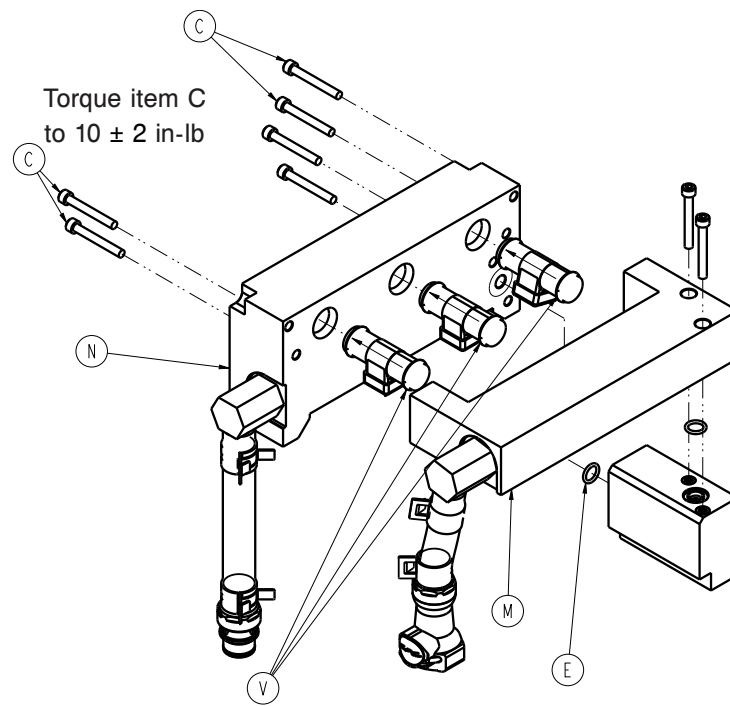

Figure 41 – Return manifold to supply manifold
5. Using a 5/32" hex wrench, remove the six screws (C) that secure the return manifold (N) to the supply manifold (M) (Figure 41). Save the screws.
Note - Verify that the O-ring (E) is seated between the return and supply manifolds (Figure 41).